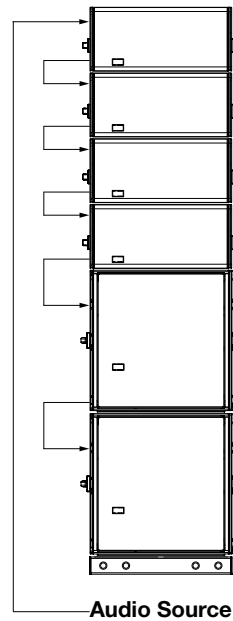

Figure 6: Mixed Groundstack
- Mixed groundstacks of LINAs and 750-LFCs (Figure 6)